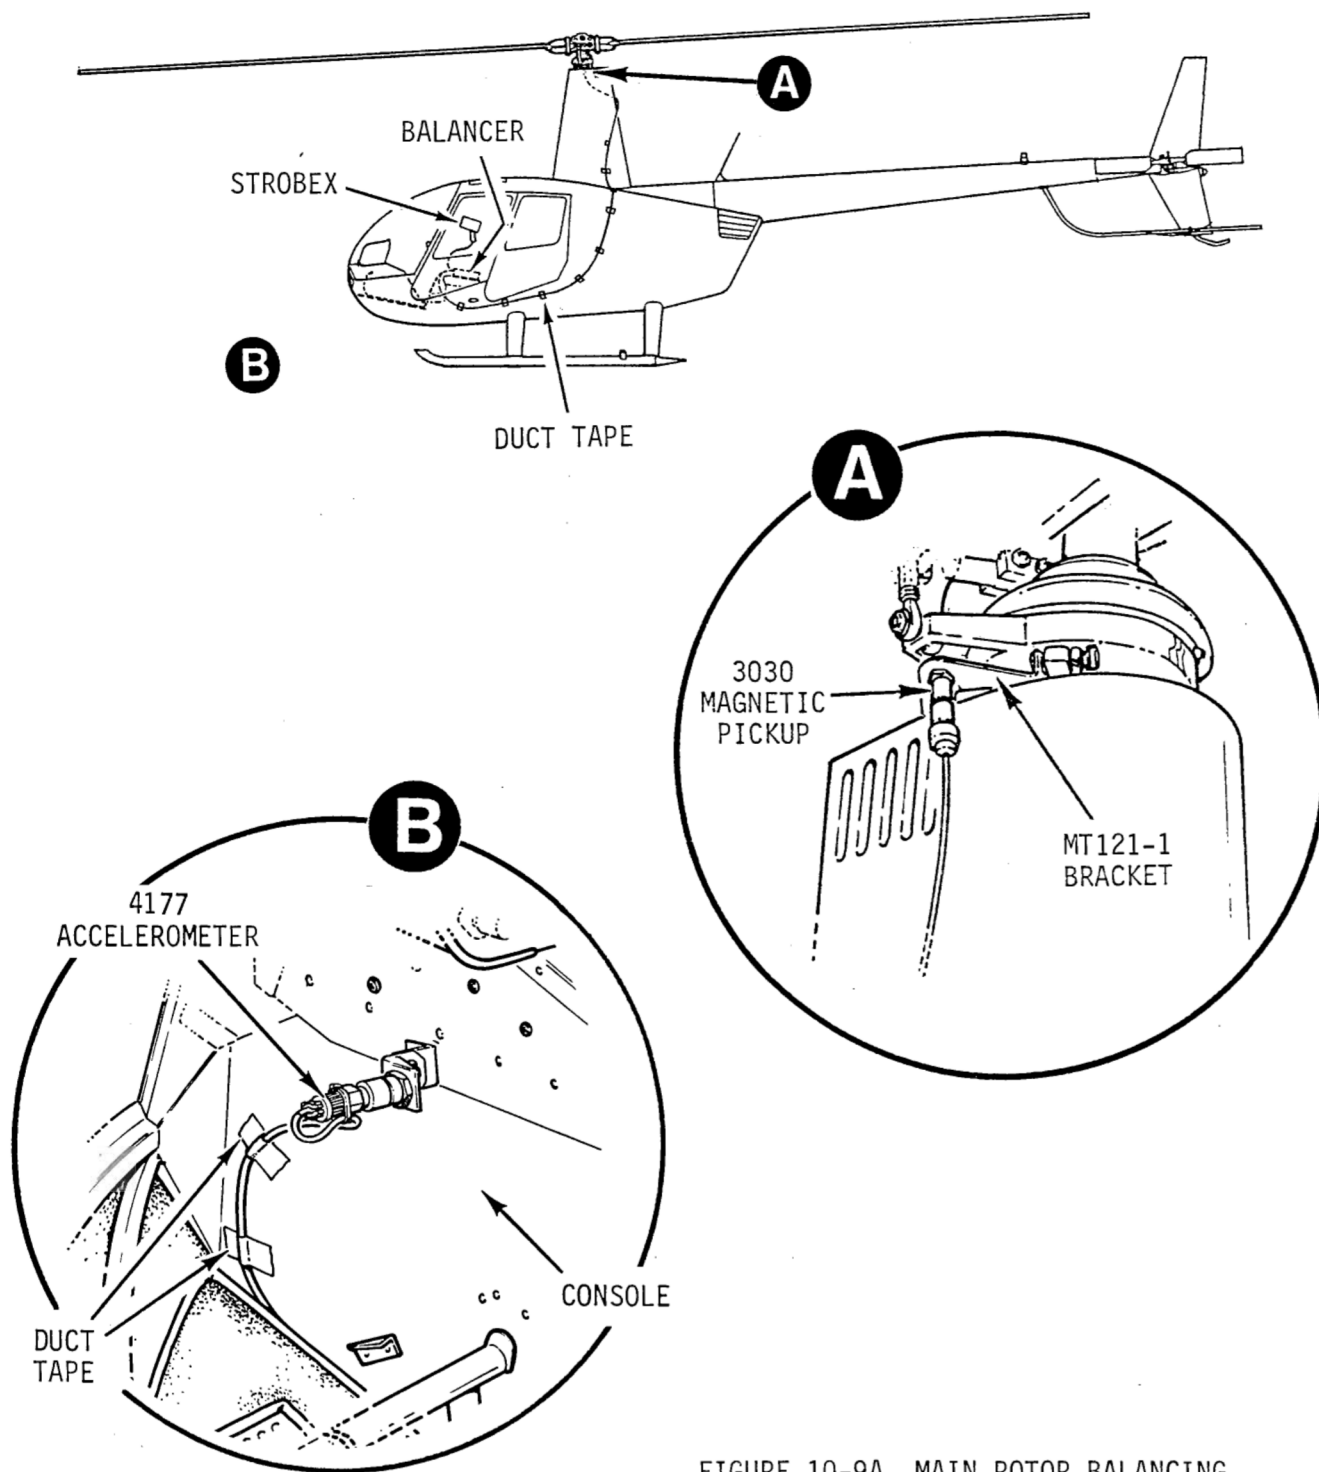

FIGURE 10-9A MAIN ROTOR BALANCING EQUIPMENT INSTALLATION
10.220 Equipment Installation10.221 Main Rotor Equipment Installation (see Figure 10-9A)